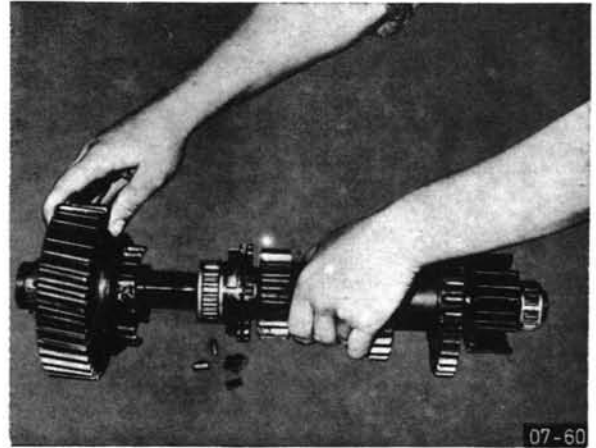

Fig. 26-5/1
4. Remove output gear with shifting sleeve. Fig. 26-5/1.